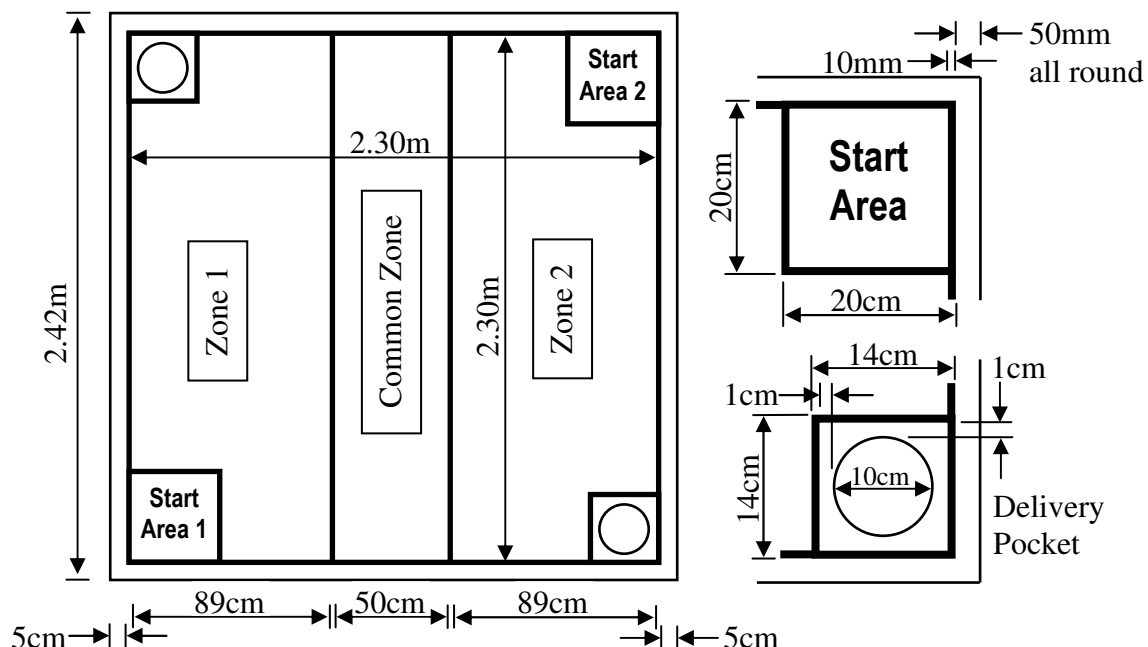

Figure 1 Robot Colony Platform
- 2.1 The platform will cover a square area of dimensions 2.3m x 2.3m as shown in Fig 1. There are no walls bordering the platform.